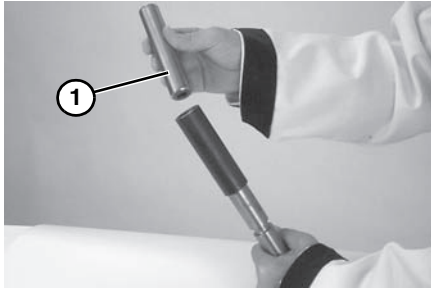

Figure 62
5. Place open end of pusher (**Figure 62, item 1**) into sleeve.